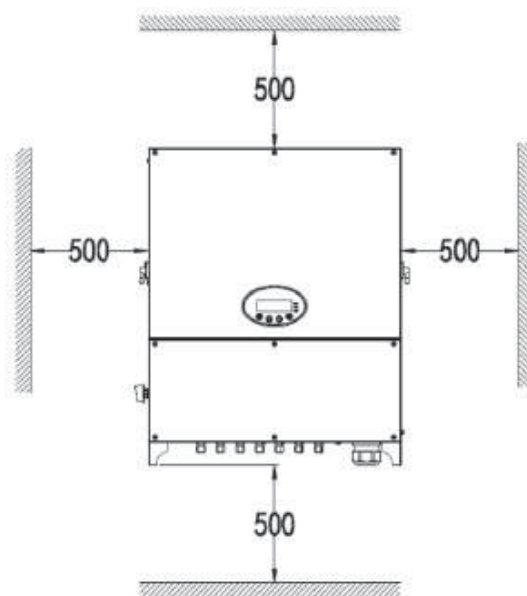

Fig 4.3 Installation spacing
- (2) The installation site must be well ventilated and away from raindrops or direct sunlight.
- (3) There must be enough pre-reserved space around the installation site for convenient disassemble of the inverter and air convection, as shown in Fig 4.3.